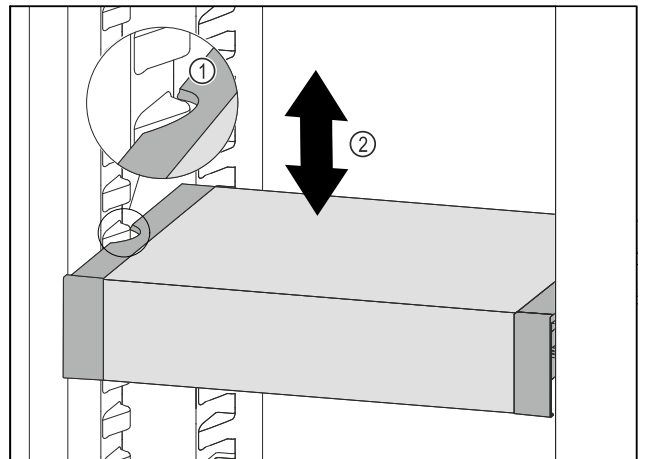

Fig. 86
- Pull VarioSafe forwards until the recesses in the side of the VarioSafe are at the level of the support rib in the refrigerator compartment. Fig. 86 (1)
- Move VarioSafe up or down in the refrigerator compartment until the desired height is reached. Fig. 86 (2)